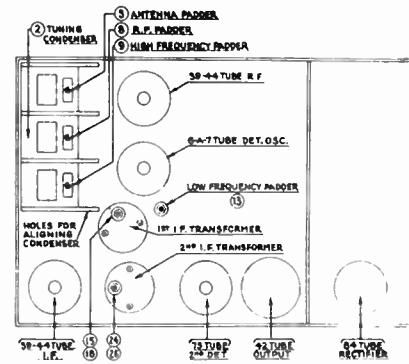

FIG. 5. MODEL 10—I. F. 260 K. C.
Remove the speaker lid from the Receiver and disconnect the antenna lead from the Receiver. Remove the grid cap from the 6A7 tube. (For location see Fig. 5.)
Set up the signal generator and adjust it to exactly 260 K. C. Connect signal generator lead to the grid cap of the 6A7 tube. (See Fig. 5.) The output meter must be connected by means of an adapter to the small prong of the speaker plug and to the chassis.
The condensers 24 and 26 are adjusted first (Fig. 5). Turn the adjusting screw all the way in. A metal screw driver can be used for this. Then, with generator attenuator set so there is approximately half-scale reading, adjust the nut with a fibre wrench for the maximum reading on the output meter.
I. F. There are four holes in line, one in each of the sections of the tuning condenser housing. (See Fig. 5.) Place a nail of the size that fits snugly through the holes and then turn the condenser plates out of mesh until they strike against the nail.